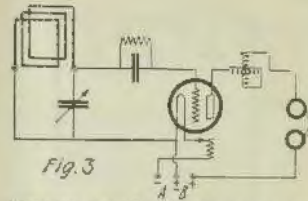

Fig. 3
4. A regenerative receiver operating on a loop (Fig. 3).